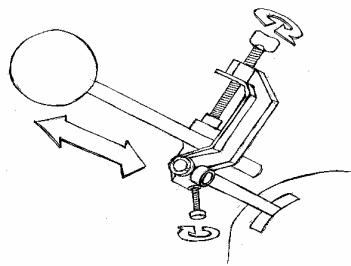

Fig.1
7. At times it may be necessary to adjust the instrument gooseneck-mounting arm to accommodate your instrument. With one hand hold the base of the gooseneck, with your other hand bend the gooseneck to adjust the instruments placement. Please see Figs 1 thru 4.